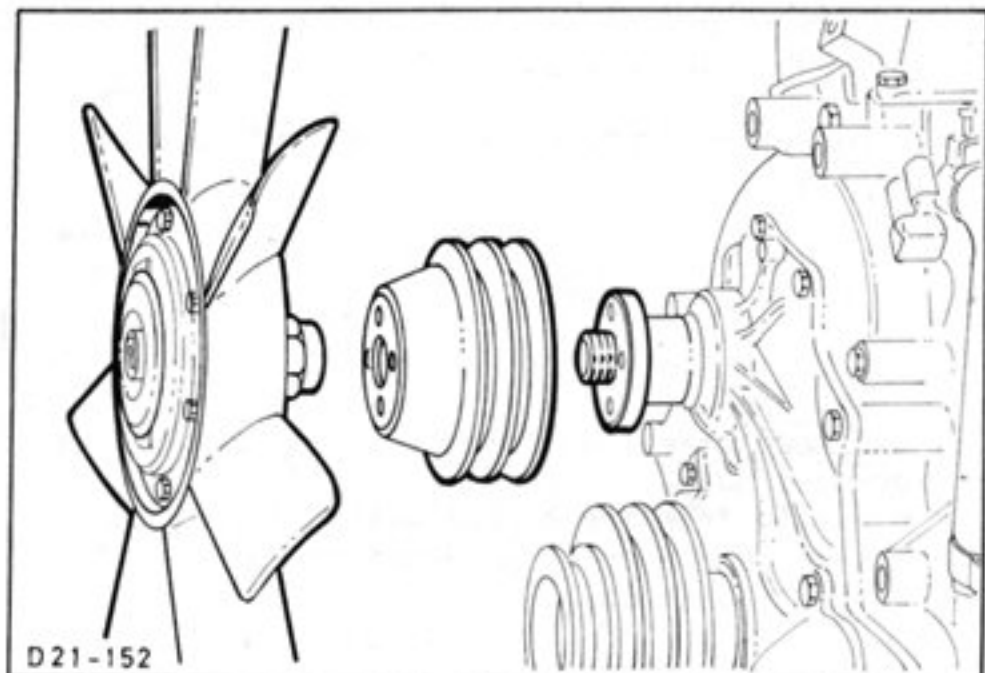

Fig.26. Remove fan and belt pulley.
5. Remove fan (with 32 mm open-ended spanner) and belt pulley (4 bolts) from the water pump, Fig.26.